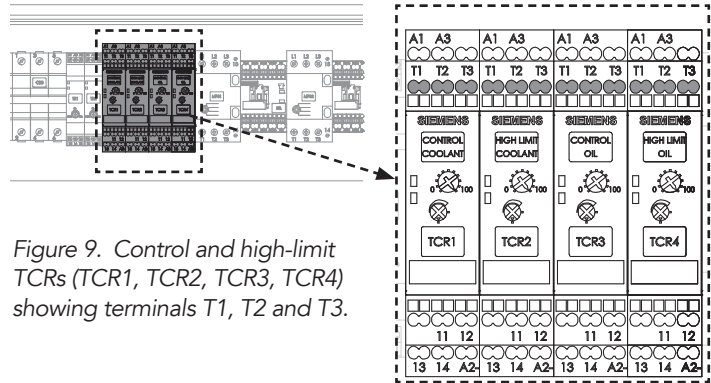

Figure 9. Control and high-limit TCRs (TCR1, TCR2, TCR3, TCR4) showing terminals T1, T2 and T3.
3. Using the ohmmeter, measure the resistance between TCR terminals **T1** and **T2** (See Figure 9):